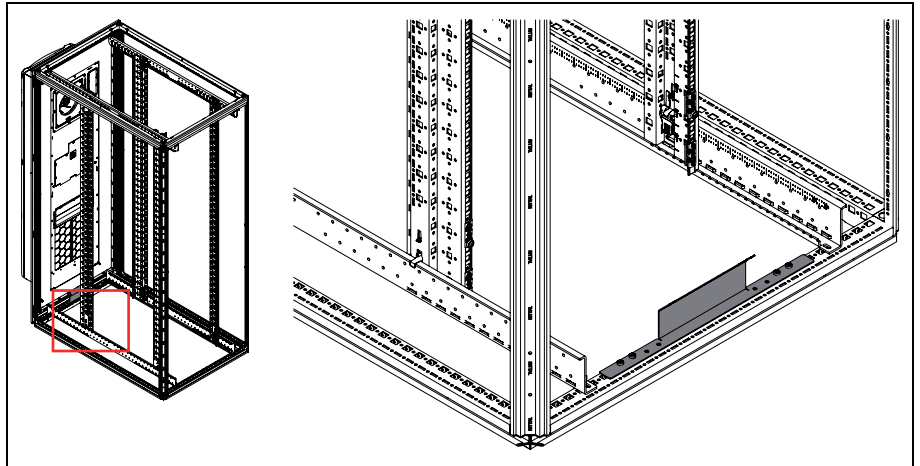

Fig. 8: Mount the rear angle bracket
- Mount the rear angle bracket on the lower cross strut at the rear of the IT rack (fig. 8).